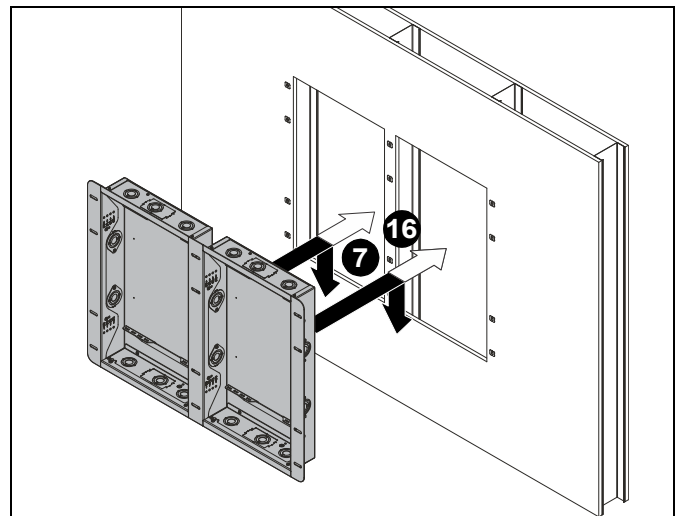
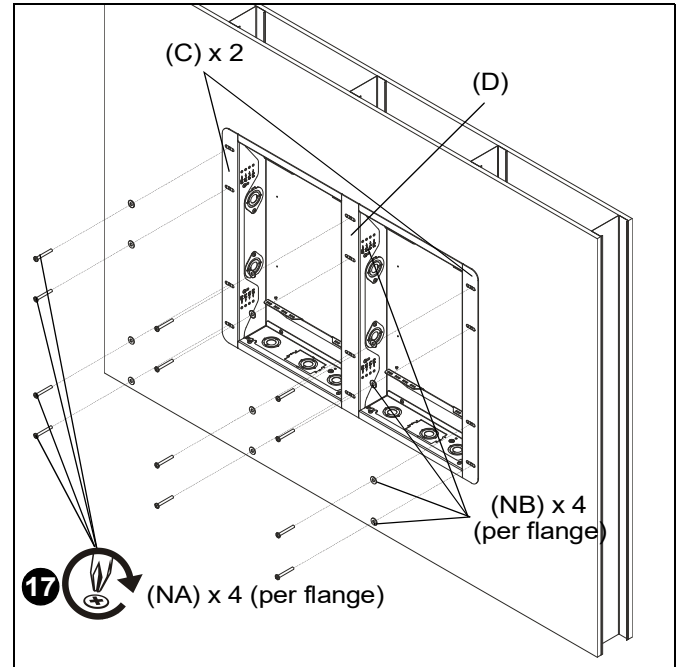

Figure 12
Figure 15
7. Slide assembled boxes into holes created in drywall. (See Figure 12)
16. Slide assembled boxes with flanges (C and D) back into holes created in drywall. (See Figure 12)
17. Use four 1/4-20 x 2" Phillips pan machine screws (NA) and four 1/4" washers (NB) to secure each flange to studs. (See Figure 12) and (See Figure 15)